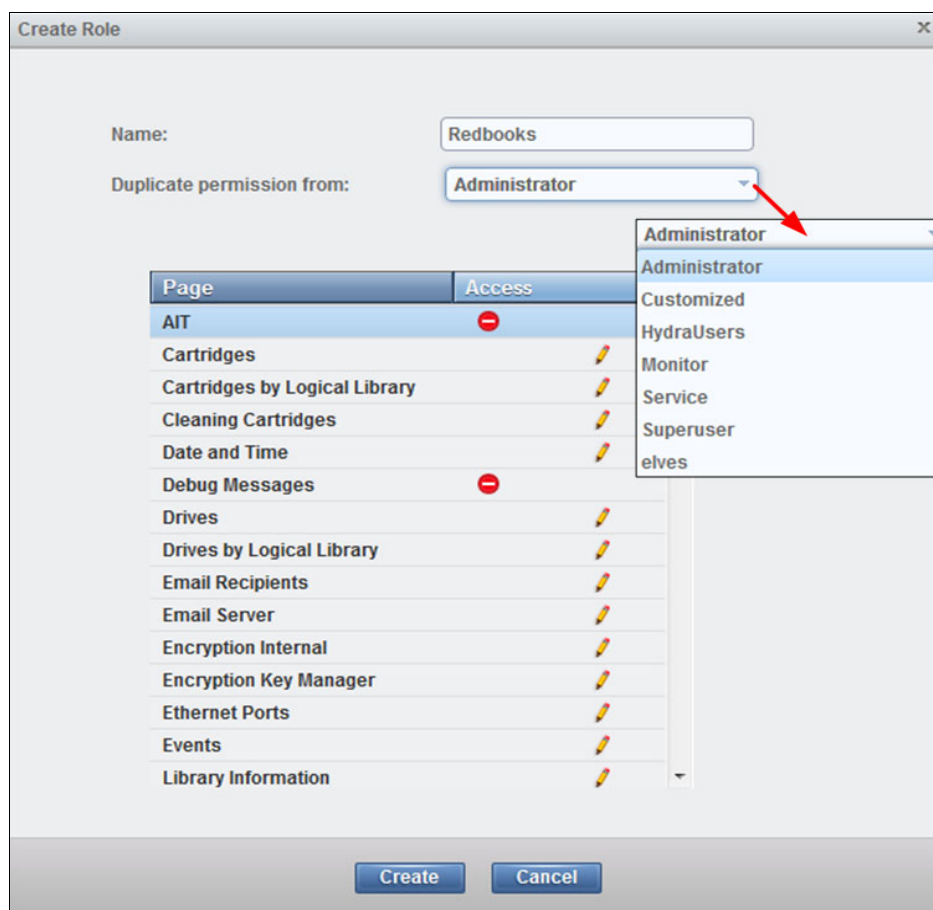

Figure 4-63 Creating a role
4. Select one of the preset role permission levels from the Duplicate permission from list box (see Figure 4-63). All roles can access all LLs in the TS4500 Tape Library.